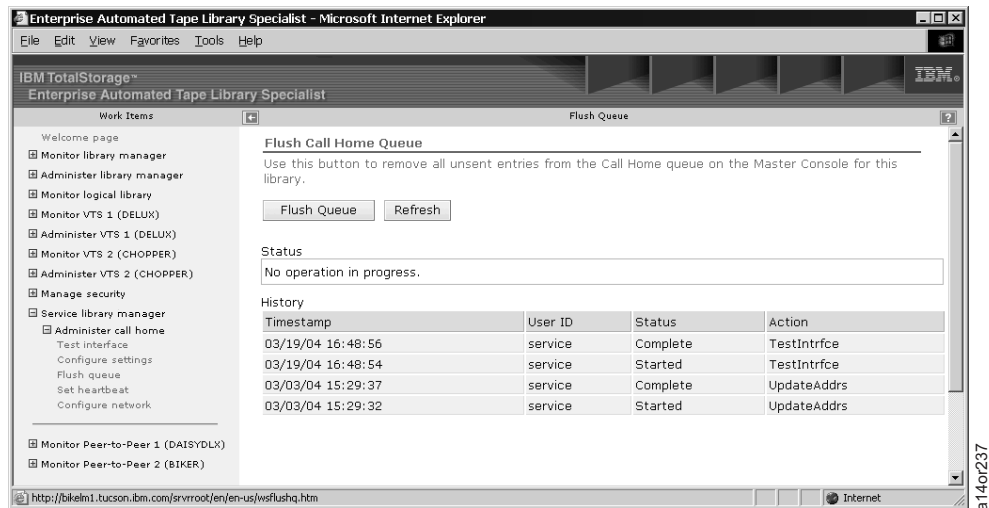

Figure 2-37. 3494 ATL Web Specialist - Flush Queue
1. From the “Administer call home” list on the Web Specialist screen (Figure 2-34 on page 2-28), click **Flush queue** to see Figure 2-37. If you are prompted for a userid and password, use the default values of **service** for the userid and **service** for the password. These values can be changed by the 3494 ATL system administrator.